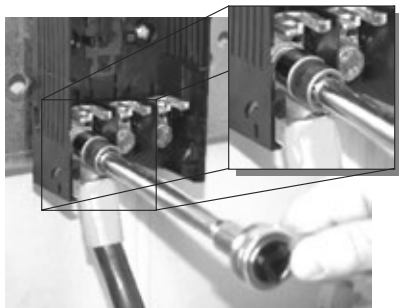
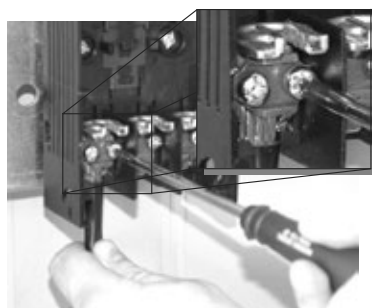

Figure 11
Figure 12
- Fix the conductors with M5 bolt (Figure 12) with torque of 3 Nm or fix the conductors according Figure 11 (M6 screw with torque of 3 Nm);